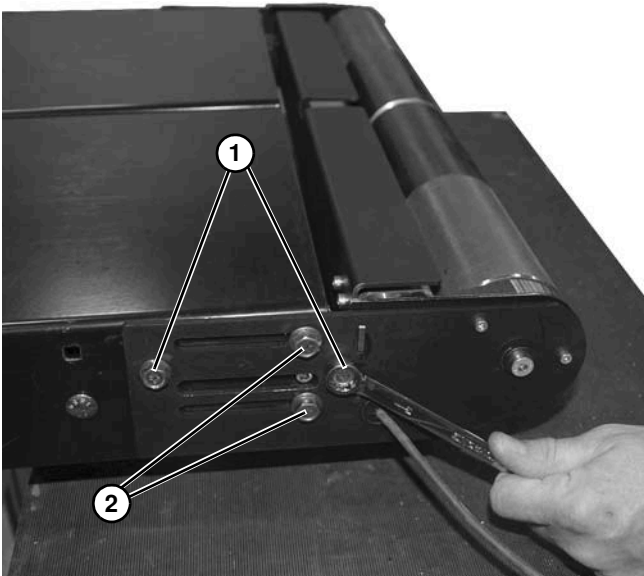
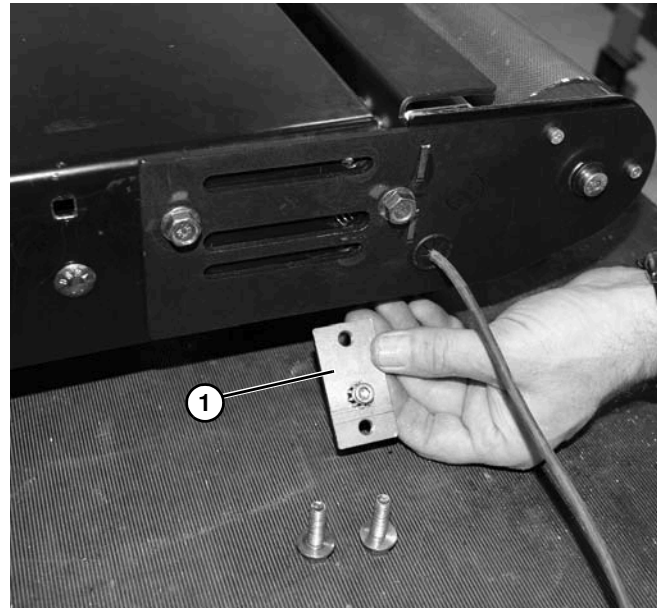

Figure 138
Figure 139
1. On tension end of conveyor, loosen two screws (**Figure 138, item 1**) on each side of conveyor.
2. Remove two screws (**Figure 138, item 2**) and tensioner clamp plate (**Figure 139, item 1**) from tension end on each side of conveyor.